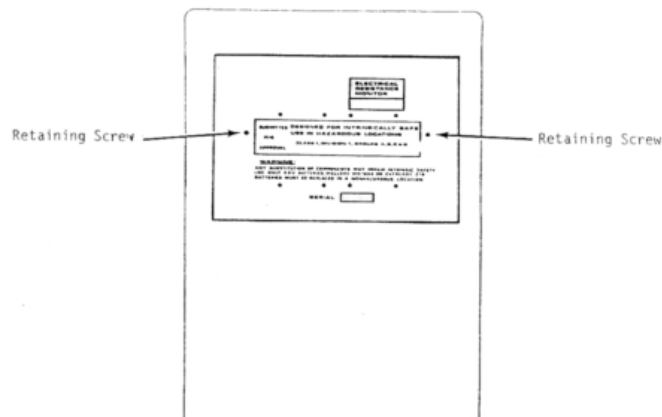

Figure 3. MS0500 Battery Cover
3. If the meter needle does not behave as described in steps 1 and 2, remove the instrument from its leather carrying case. Open the instrument's battery cover by removing the two retaining screws (refer to Figure 3). **CAUTION:** The MS0500 is designed to be intrinsically safe. However, when the battery cover is removed, this can no longer be assumed. Therefore, remove the battery cover in safe areas only.
2. Remove the instrument's two retaining screws that hold the battery cover in place (Figure 3).